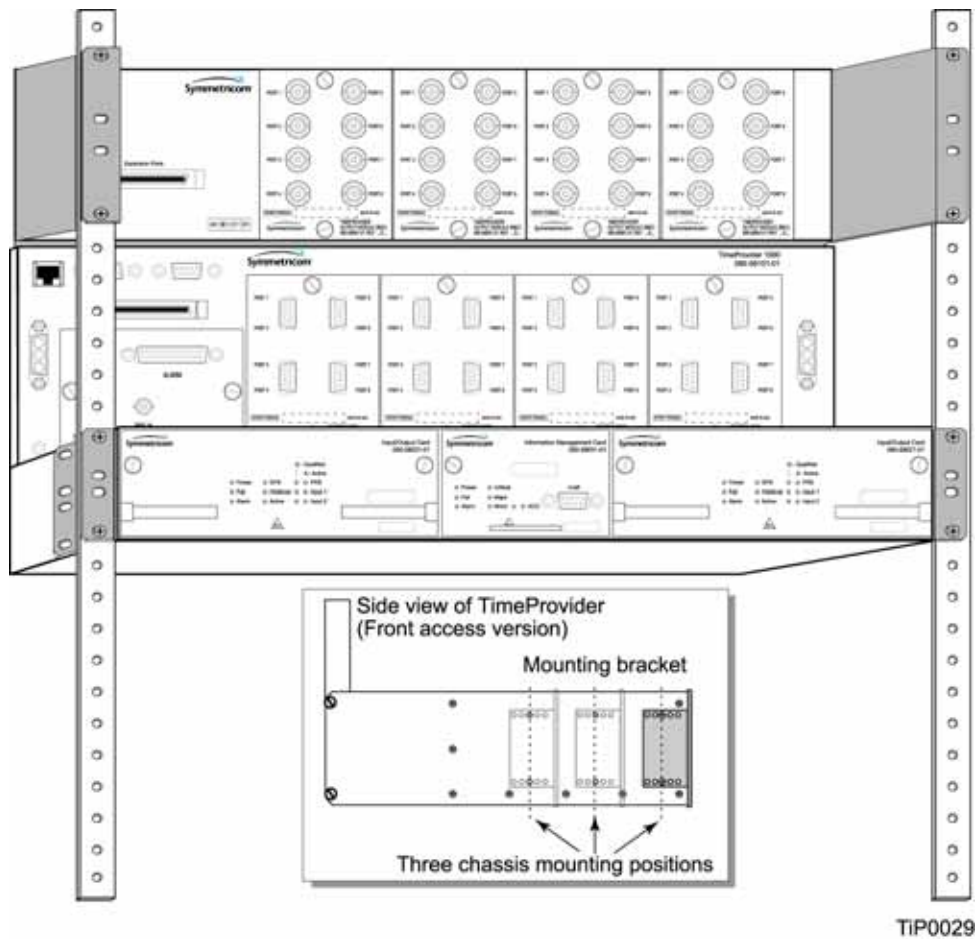
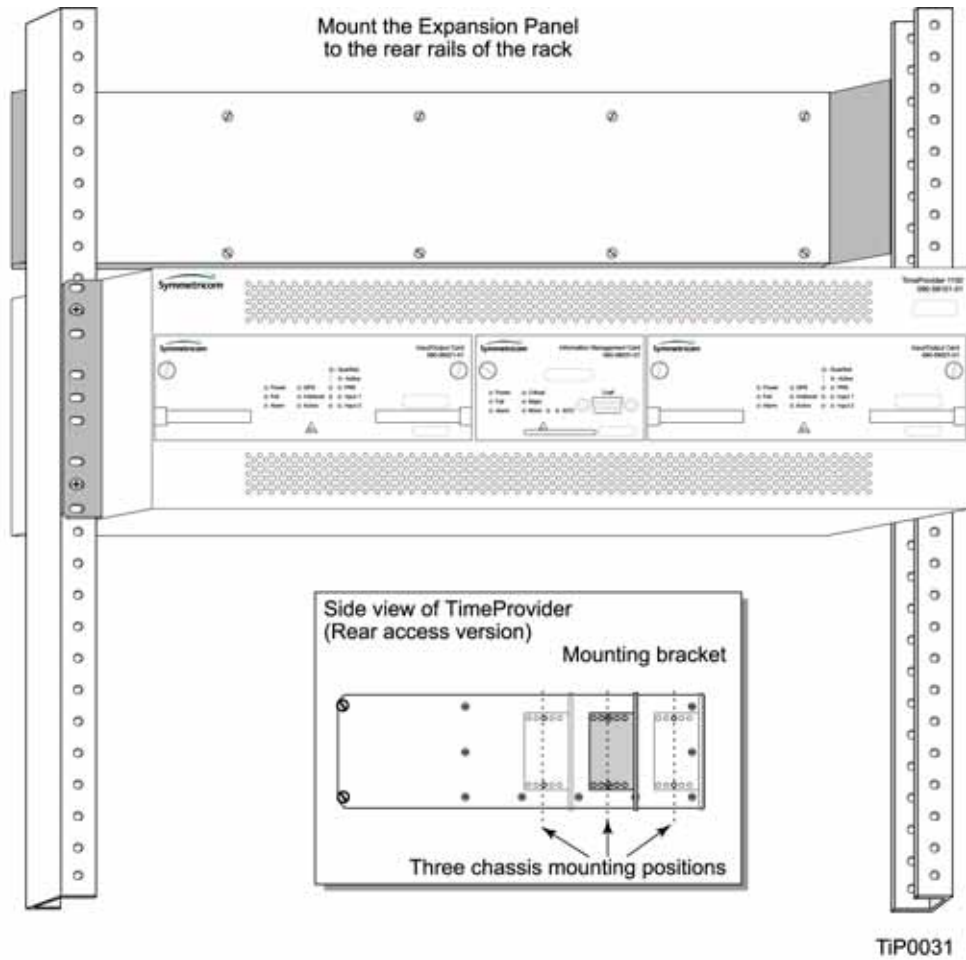

Figure 3-1. Installing the Model 1000 Shelf and Expansion Panel – 19-inch Rack
Figure 3-2. Installing the Model 1100 Shelf and Expansion Panel – 19-inch Rack
1. Attach the rack mounting ears to the shelf using 8-32 x 3/8-inch screws. Ensure that the ears are attached at equal distances from the front of the unit, as shown in Figure 3-1 or Figure 3-2.